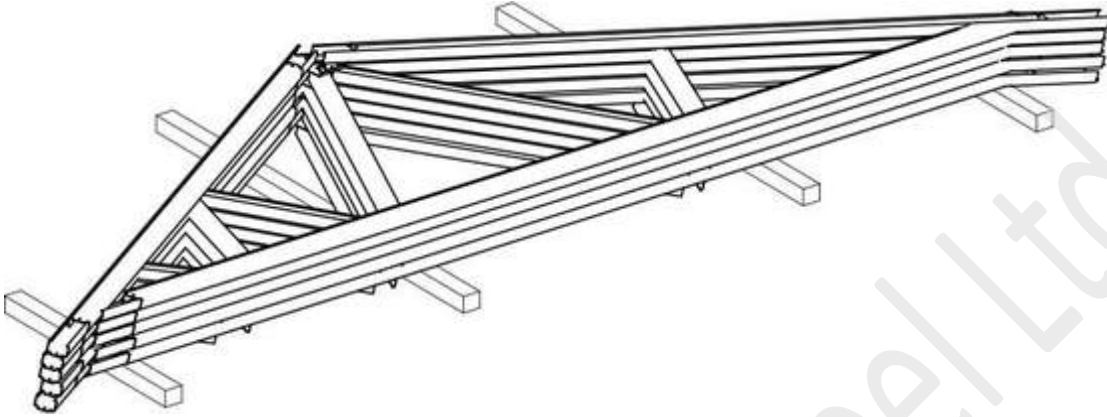

Figure 2.2 Trusses stacked horizontally
1. If the trusses are stored horizontally, as shown in **Figure 2.2**, the blocking should be at 2.0m to 2.5m centres or as required at joints, to prevent bending of the trusses. Avoid using copper, chemically treated timber or EPDM based materials as blocking.